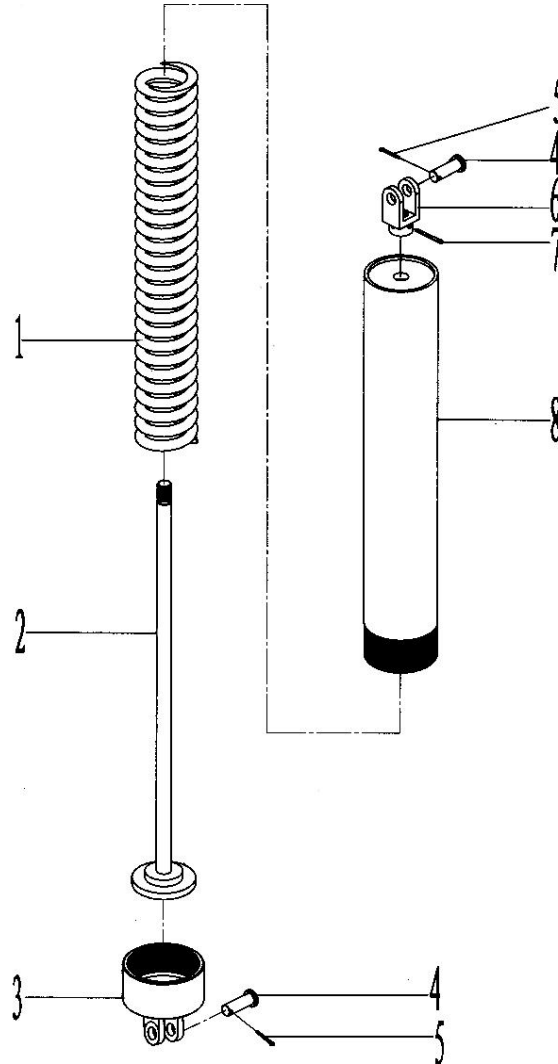

Fig.7-28
28. Spring lift bucket assembly (Fig7-28, Table28)